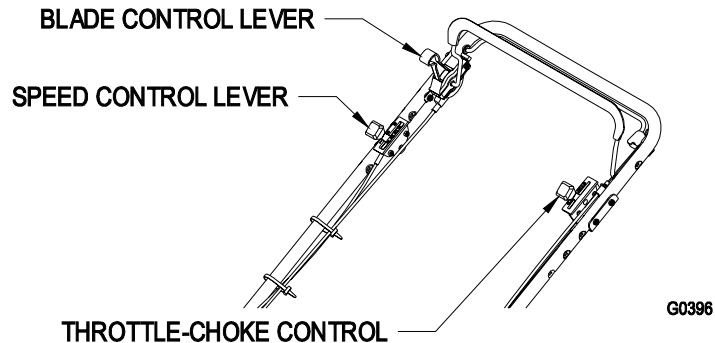

FIGURE 6
The throttle-choke control is located on the left side of the handles as shown in Figure 6. The lever is used to control engine speed. Moving the lever to the full forward **⏏** (**Choke**) position will place the lever in the choke position. The choke aids in starting a cold engine. Moving the throttle control forward will increase engine speed and moving it to the rear will decrease engine speed.
The blade control lever is located on the right side of the handle next to the Blade Control Bail as shown in Figure 6. Moving the blade control lever into the full forward position while depressing the blade control bail engages the blade. Releasing the blade control bail automatically disengages the blades.
The ground speed control is located on the right side of the handles below the blade engagement lever as shown in Figure 6. The ground speed control has three settings which control the ground speed of the mower.
The lawn mower has three ground speeds. **1** is slow, **2** is medium, and **3** is fast (See Figure 6 for speed control lever location).
3. Move the blade control lever to the full forward **Latch** position. Blades should engage (Fig. 6).